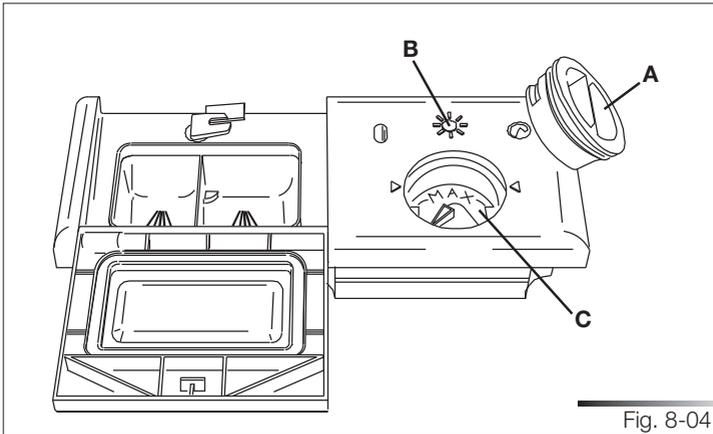

Fig. 8-04
- Rotate the container cap (ref. A fig. 8-04) counter clockwise by $\frac{1}{4}$ of a turn and remove it.
- Add the rinse aid until the container is full (approximately 4.7 oz). The optical level indicator (ref. B fig. 8-04), on the side of the cap should be completely obscured. Refill the rinse aid when the optical level indicator becomes clear again, or when the rinse aid warning light illuminates (see para “Description and use of controls”).
- Replace the cover (ref. A fig. 8-04) by turning it in a clockwise direction until it is fully closed.
The rinse-aid dispenser can be set to one of 6 different levels. The dishwasher is factory set for medium water hardness (selector set to “3”). To change the setting, turn the dispenser selector (ref. C fig. 8-04) to the desired position: the amount of rinse-aid dispensed is proportional to the position of this selector. The minimum amount of rinse-aid (selector turned to “1”) is approximately 0.033 oz and the maximum amount (selector turned to “6”) is approximately 0.2 oz.
- To adjust the rinse aid setting, rotate the dispenser cap (ref. A fig. 8-04) a quarter turn in an counter clockwise direction and remove it.